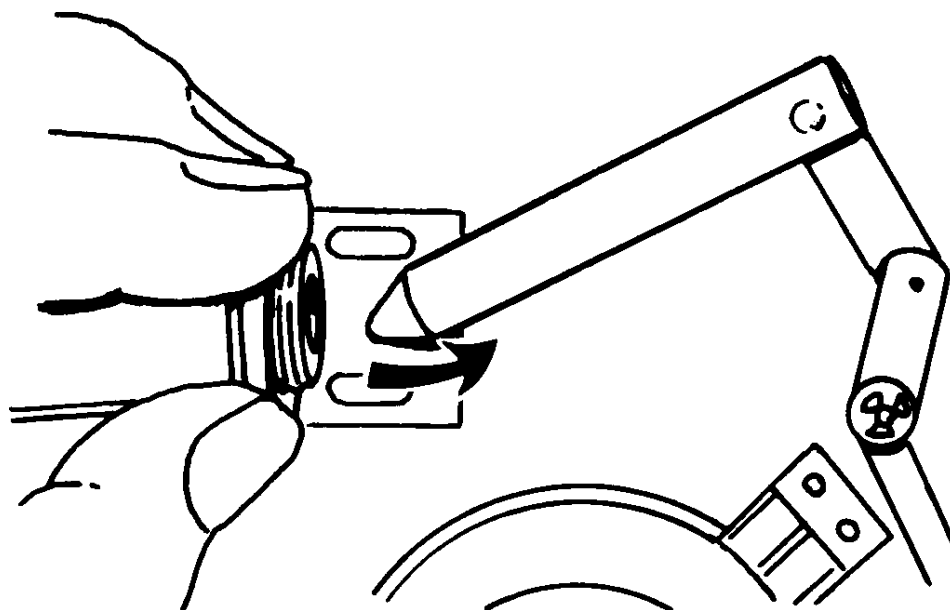

Figure 4-14 Sliding Solenoid Body Off Cover
- 6.3 Slide Solenoid body off plunger ("d"). (Fig. 4-14)